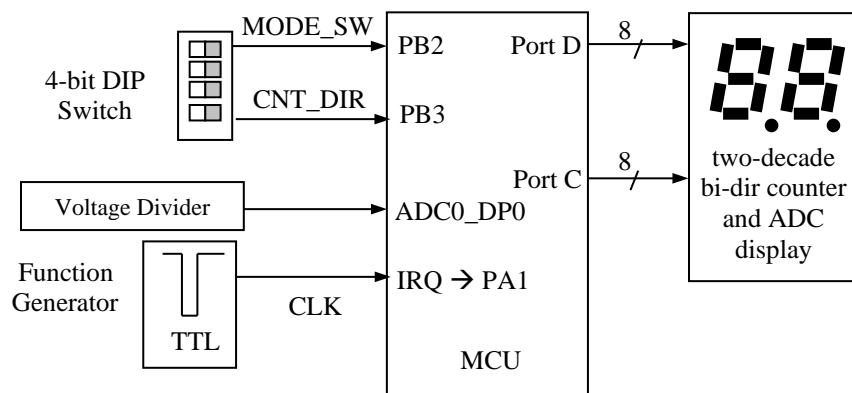

Figure 1
- 1) A “clock tick” circuit, which is conceptually a flip-flop Q driven by the hardware signal CLK. This clock tick will be displayed using a single *decimal point* on a 7-segment display. For every clock tick received, the decimal point should pulse on and off (Use set up in Figure 1).
The value of the counter or ADC output will be displayed using two 7-segment LEDs. See Figure 1.
- The control signals, MODE\_SW and CNT\_DIR, can be read in through Port B. In Figure 1, PB2 means Port B Pin 2 and PB3 means Port B Pin 3.